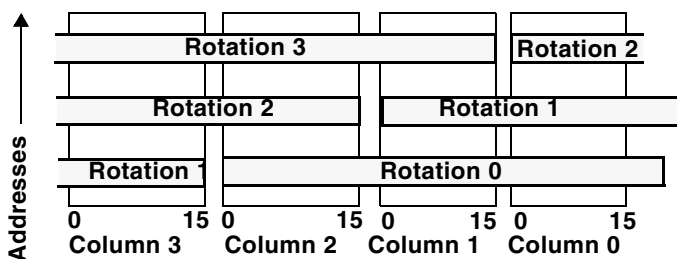

Figure 5-7. 48-Bit Word Rotations
-  Normal word address space is also used by the program sequencer to fetch 48-bit instructions. Note that a 48-bit fetch spans three columns that can lead to a different address range between instruction fetches and data fetches (Figure 5-7).
When the processor core or I/O processor addresses memory, the word width of the access determines which columns within the memory are accessed. For instruction word (48 bits) or extended-precision normal word data (40 bits), the word width is 48 bits, and the DSP accesses the memory's 16-bit columns in groups of three. Because these sets of three column accesses are packed into a 4 column matrix, there are four rotations of the columns for storing 40- or 48-bit data. The three column word rotations within the four column matrix appear in Figure 5-7.